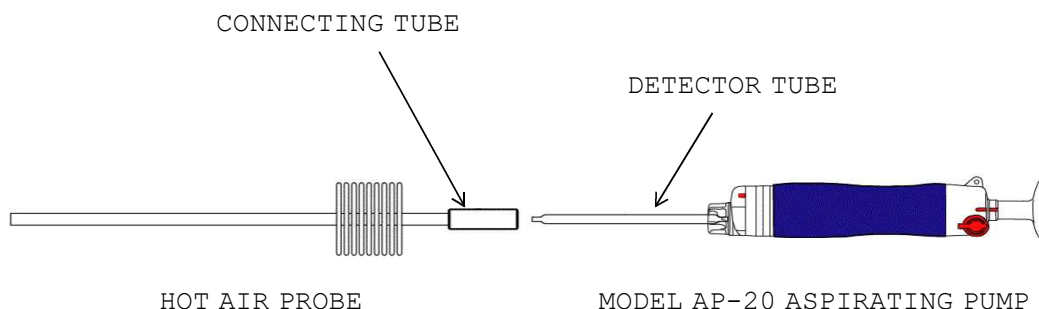

Fig. 1
1. Insert the detector tube connected with the aspirating pump into the connecting tube of the hot air probe as shown in Fig.1.